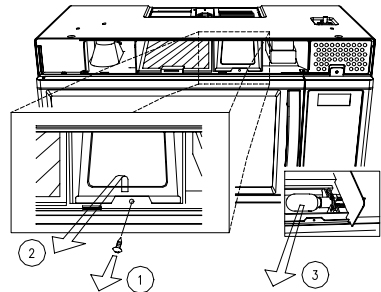

FIGURE 4
3. Remove a screw (①) for lamp over. (See Figure 4.)
4. Pull out the Lamp cover. (See Figure 4.)
7. Replace lamp over and secure it with the screw (①).